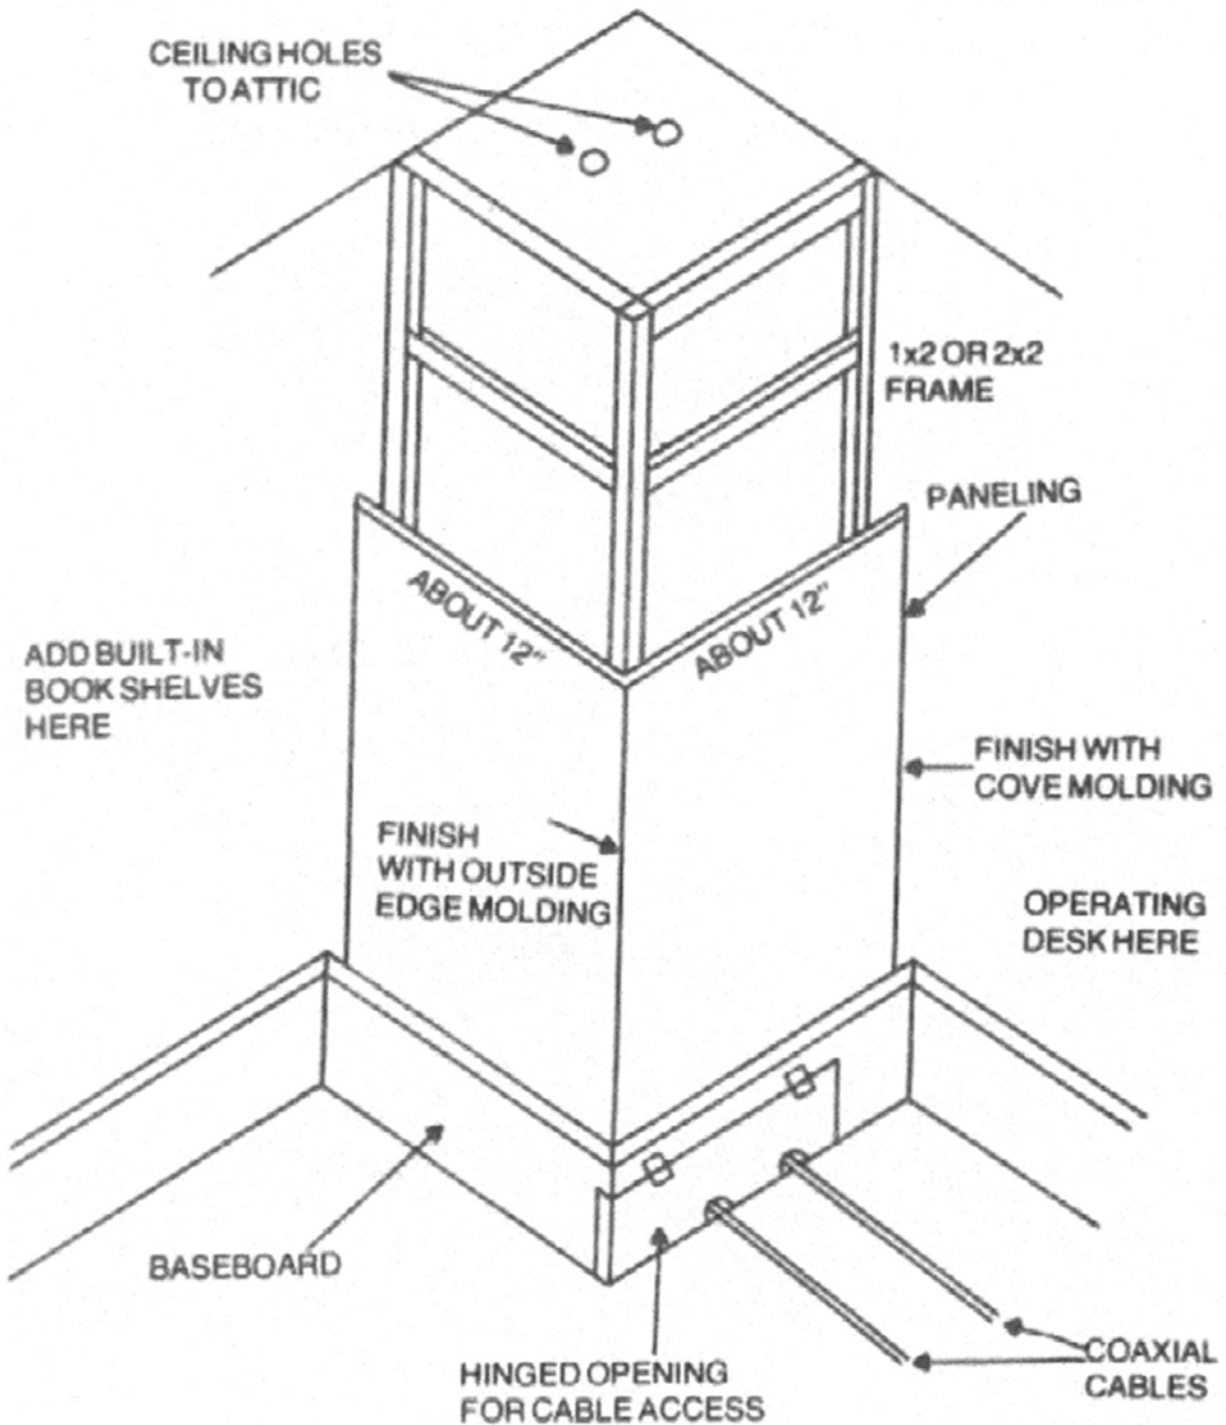

Fig. 12: Running cables to the attic
- *The attic:* A second-story shack may provide easier access to the attic than to the basement. Figure 12 shows one way to run a cable through to the corner of the room. Antenna cables enter through the hinged baseboard and run out of sight into the attic. They pass outside through the ventilation screen. The trough itself is paneled to match the rest of the wall. One advantage of this system is that the antenna cables leave the house well above the level at which anyone might grab or trip over them. A disadvantage is that unless the house has hot water or steam radiators, there is no way to have a short ground connection.